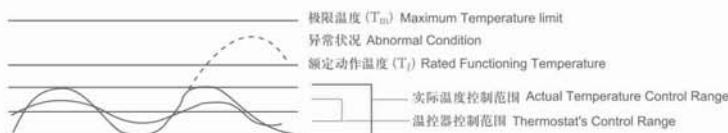

图 1 Fig.1
- 应用产品必须经过测试以确定当出现任何异常状况时都不会使温度保险丝周围温度超过极限温度（Tm），这种状况可能出现在一种称为“余热过冲”的状况下。例如：一个热风机在进风口或出风口堵塞时引起温度升高到 Tf，这时温度保险丝断开电路，但是，一个不正确的设计可能会引起装置提前开路 and 过度的余热过冲可能会损伤保险丝，应用产品须经测试以确定在正常的温度波动状态（如控温器的动作与复位引起的加热器温度波动）下，温度保险丝周围温度在控温器的通断循环中不会达到 Tm。（见图 1）
- The end product should be tested to ensure that potentially abnormal conditions do not exposed the thermal cutoff to the temperature exceeding its Tm. This condition may occur in an "overshoot" situation. For example, an air heater may be subjected to a blocked inlet or outlet condition on attaining its Rated functioning temperature,the thermal cutoff will open .However, an incorrect design may cause the premature opening of the device and excess overshoot may cause shooting or damage to the thermal cutoff .The end product should be tested to ensure that under normal cycling condition (such as cycling of a thermostat),the thermal cutoff never reaches its Tf during the"on" or "off" cycle.(see Fig.1)